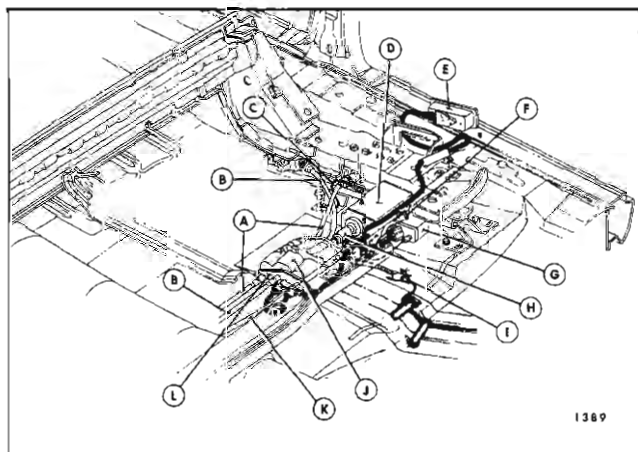

Fig. 1H11—Six-Way Full-Width Seat Electric Wiring
4. Under front of seat, disconnect seat harness feed connector and detach seat harness from clip on floor pan (Fig. 1H11).